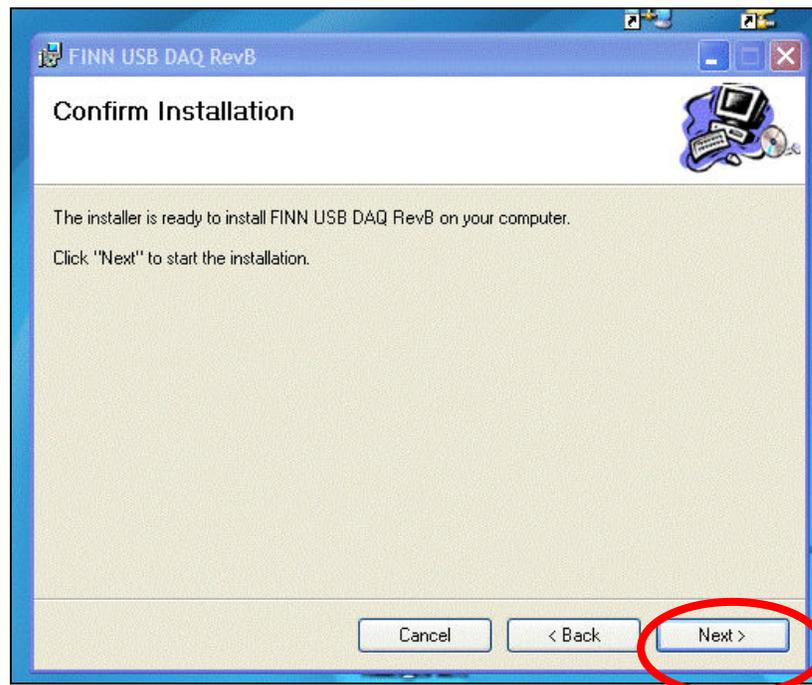

Figure 10
- The following screen will appear (Figure 10).
- Click on "**Next**" (Figure 10).